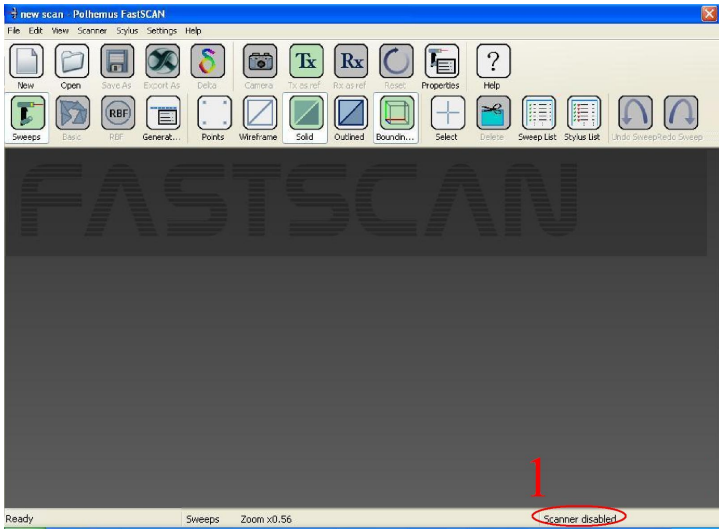

Figure 3: The *FastSCAN* startup screen.
3. Start *FastSCAN*[™] by double clicking on its desktop icon. The *FastSCAN*[™] startup screen (Figure 3) will appear.
4. The status indicator at the bottom right of the screen (labeled **1** in Figure 3) should change from **Scanner disabled** to **Scanner initializing...** After approximately 10 seconds this should change to **Scanner on-line**, indicating that the system has initialized.